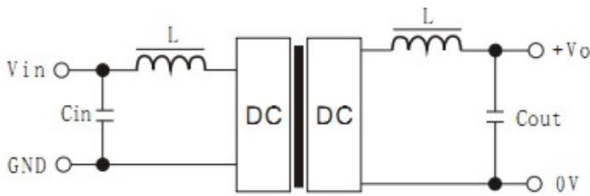

Figure 1
4. For applications with high ripple and noise requirements, an external LC filter circuit should be used (as shown in Figure 1). It is recommended to use ceramic capacitors or high-frequency low-impedance electrolytic capacitors for C_{out} . Using tantalum capacitors may cause module damage.